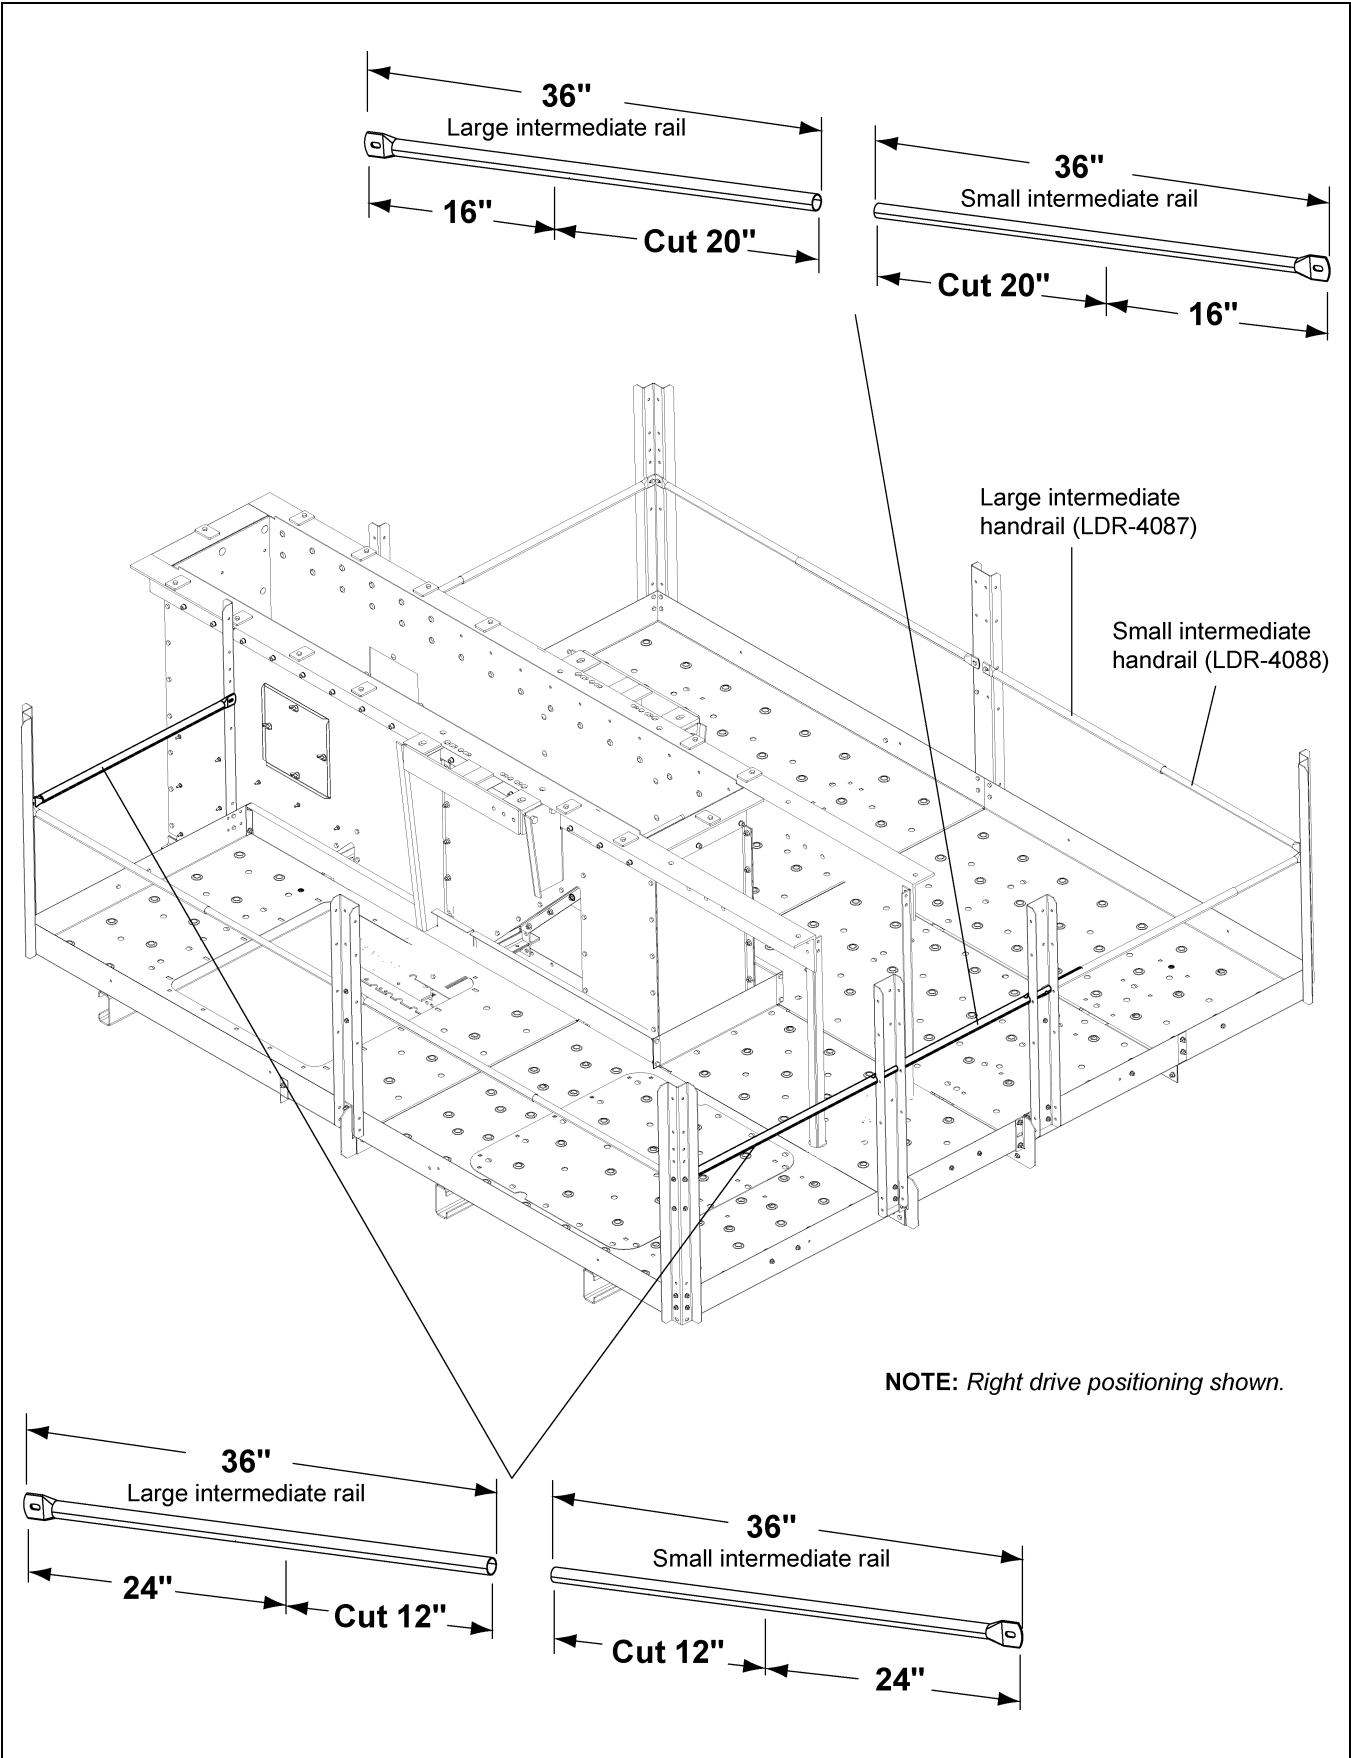

Figure 10H
1. Cut 20" off the tube end of one small intermediate handrail (LDR-4088) and one large intermediate handrail (LDR-4087). *(See Figure 10H on Page 95.)* Slide the small rail into the large rail and install between the posts opposite the discharge end and adjust to fit. Fasten using 5/16" x 3/4" bolts (S-6606) and nuts.
2. Cut 12" off the end of two (2) small intermediate handrail (LDR-4088) and two (2) large intermediate handrail (LDR-4087). *(See Figure 10H on Page 95.)* Slide the small rails into the large rails and install one set at the discharge end of Deck A. Install the second set opposite the discharge end of Deck A. Fasten using 5/16" x 3/4" bolts (S-6606) and nuts.